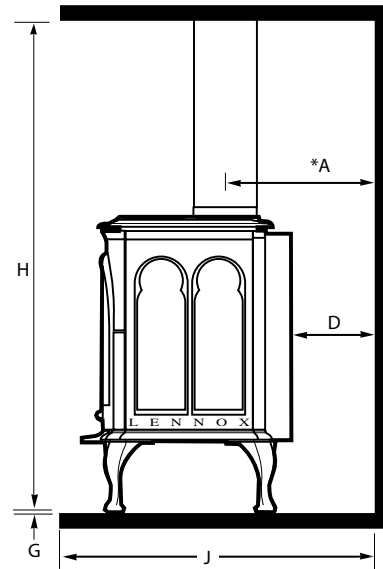

Figure 2A
- As determined through the safety certification of this unit, a minimum clearance to combustible materials must be maintained around specific areas of the gas appliance. (See **Table 5** and **Figures 2A, 2B and 2C**).